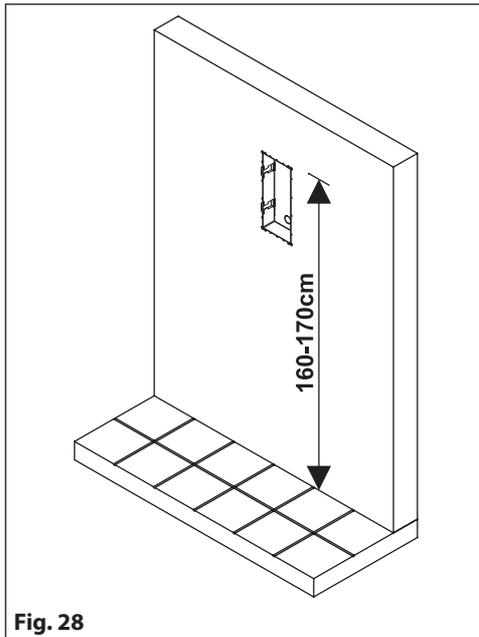
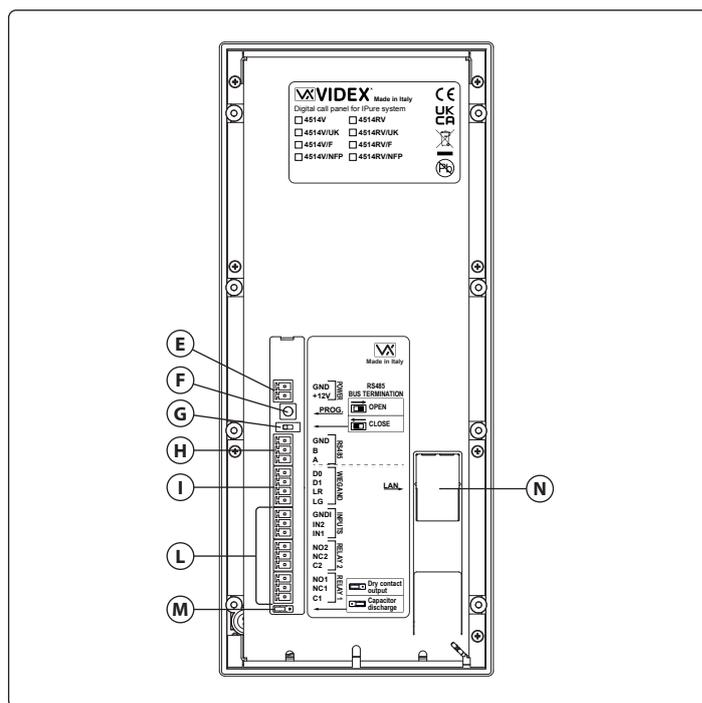

Fig. 28
Fig. 2 Lato posteriore
1. Embed the flush mounting box into the wall (160-170 cm between the top of the box and the floor level as shown in **Fig. 28**) passing the cables (**Fig. 2**) through a cable knockout hole in the box;
- Premere e tenere premuto il pulsante **F** (Fig. 2 a pagina 15), quindi collegare nuovamente l'alimentazione.